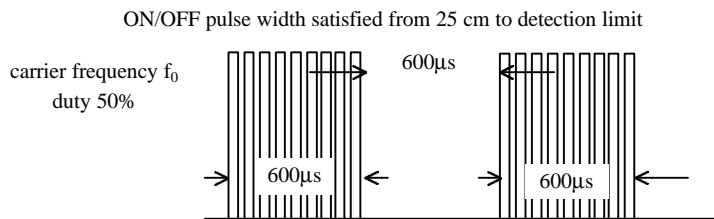

Fig 1. Burst Wave
- (1) Measuring place .....Indoor without extreme reflection of light.
- (2) Ambient light source... Detecting surface illumination shall be 200±50Lux under ordinary hite fluorescence lamp of no high frequency lighting.
- (3) Standard transmitter ... Burst wave indicated in Fig 1. of standard transmitter shall be arranged to 50mVp-p under the measuring circuit specified in Fig 2.